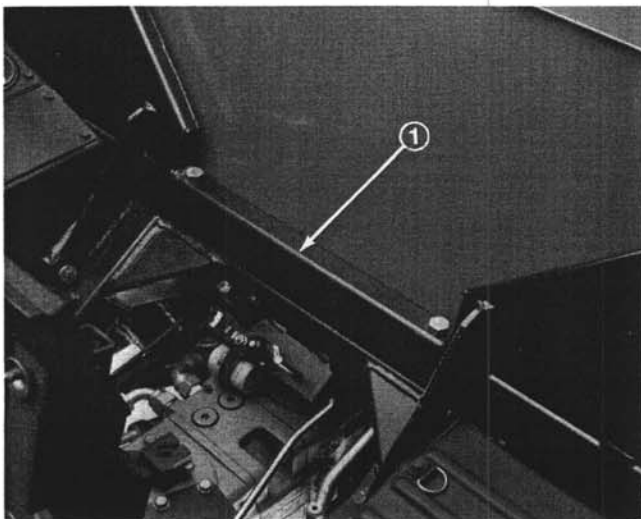

Figure 9
2. Lower roll bar onto frame, aligning mounting holes as shown in fig. 9.
3. Secure each side of roll bar to frame with a 1/2 x 13 - 3/4" lg. capscrew and lockwasher. Secure back of roll bar to frame with (2) 1/2 x 13 - 6-1/2" lg. capscrews, flatwashers (1-1/16" O.D.) and 1/2 - 13 locknuts. Tighten all fasteners securely.